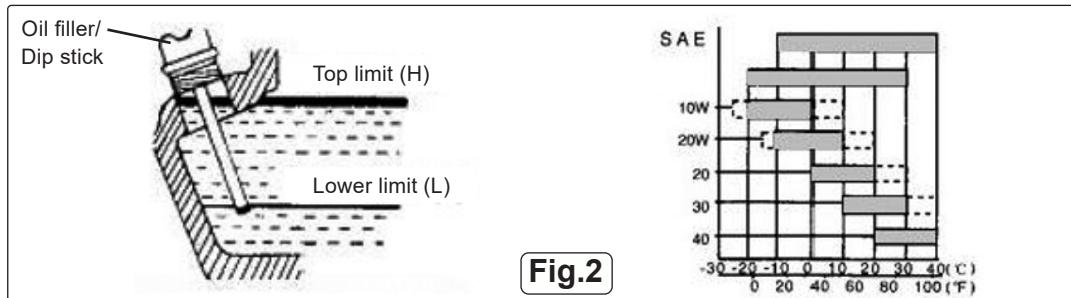

Fig.2
- **WARNING!** Generator is shipped without oil. Add oil before starting. See fig.2 below